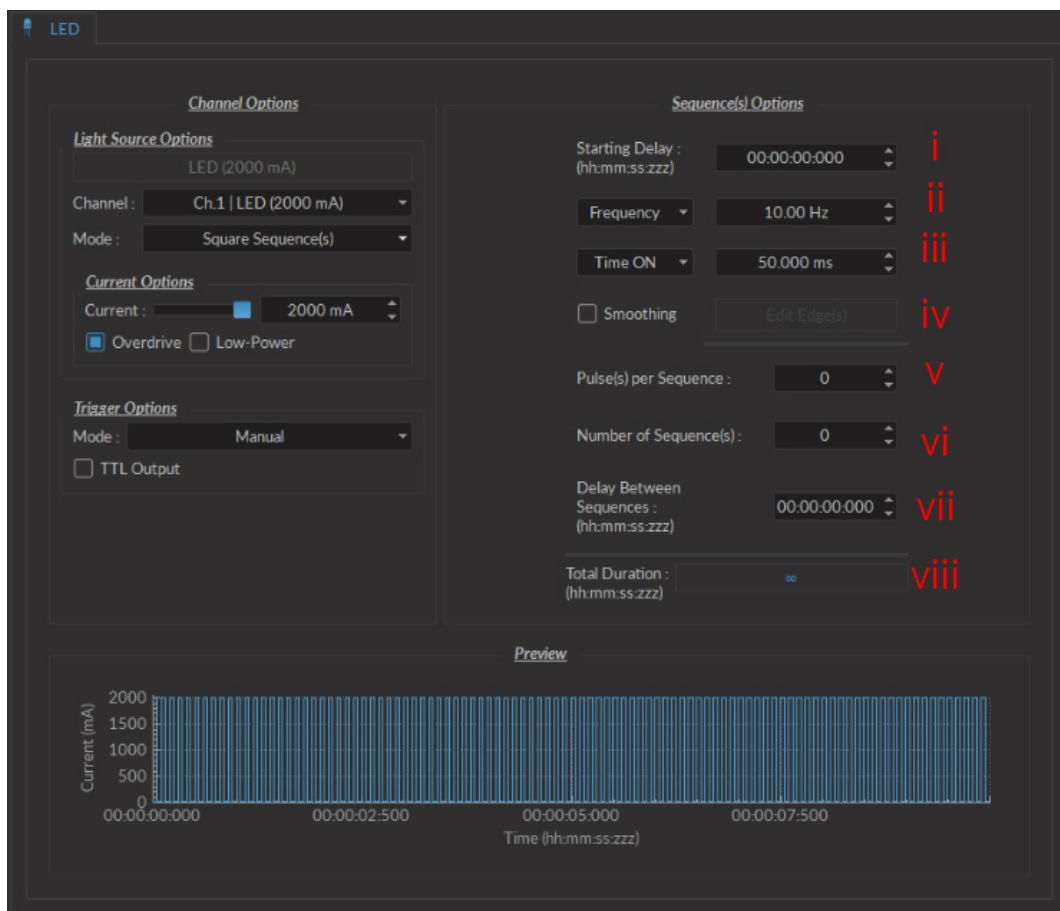

Figure 4.6: Light Source Channel Configuration Window, square sequence options
- The **Starting Delay** (Fig. 4.6) sets the delay (in hh:mm:ss:zzz format) before the first pulse.
- The **Frequency/Period** (Fig. 4.6) sets the frequency (in Hz) or period (in ms) for the pulse sequence. For example, a signal at 10 Hz (frequency) will output one pulse every 100 ms (period), whereas a pulse sequence at 0.5 Hz (frequency) will output one pulse every 2000 ms (period).
- iii. The **Time ON/Duty Cycle** (Fig. 4.6) sets the time (in ms) or the duty cycle (in %) for each pulse. The **Time ON** must be lower than $(1/\text{frequency}) + 0.005$ ms, while the **Duty cycle** must be below 100 %. These squares will appear red should an impossible **Frequency/time ON** be selected. Should the **Smoothing** option be selected, this feature becomes inaccessible.
- v. The **Pulses per sequence** (Fig. 4.6) sets the number of pulses per sequence. If it is set to 0, the pulse will be repeated indefinitely.
- vi. The **Number of sequences** (Fig. 4.6) sets the number of times that the sequence will be repeated. If it is set to 0, the sequence will be repeated indefinitely.
- vii. The **Delay between sequences** (Fig. 4.6) sets the delay (in hh:mm:ss:zzz format) between each sequence if the **Number of Sequences** is greater than 1.
- viii. The **Total Duration** (Fig. 4.6) displays the total time of the experiment. The different values can be *Inf* for infinite, a valid time value or *Err* if the **Time ON** value is greater than $1/\text{frequency}$.